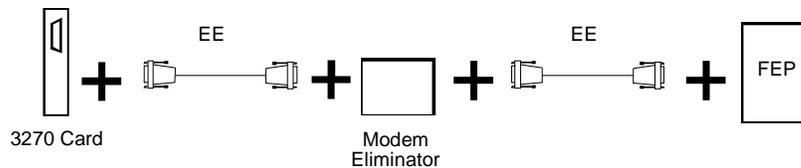

Figure B-7. 3270 Interface Connection Using a Modem Eliminator
- The modem eliminator (Figure B-7) is used for distances of 100 to 400 ft and must provide a DB-25 female connector.